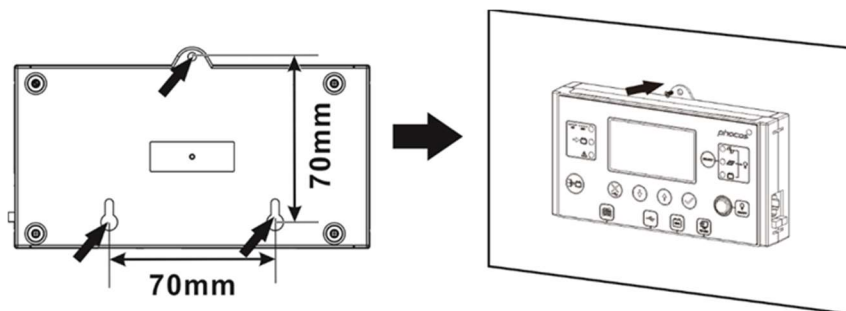

Fig. 12: Remote display mounting hole locations
5. Drill the three mounting holes in the marked distances of 70 mm, 2.76 in into each other (Fig. 12, left). Use M3, size no. 4 diameter screws. The screw heads must be between 5 ~ 7 mm, 0.2 ~ 0.3 in. Screw the bottom two screws into the wall where the display module is to be mounted and let the screw heads protrude 2 mm, 0.08 in. from the wall. Slide the display down on the protruding screw heads. Now insert and tighten the third screw at the top (Fig. 12, right).